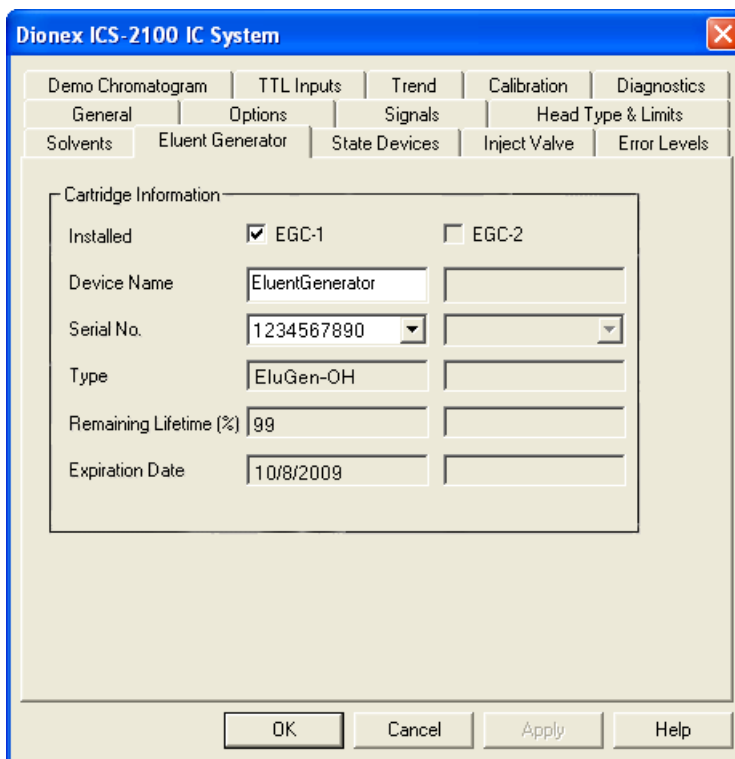

Figure 50. Eluent Generator Configuration Properties: OH Example
3. Click the **Eluent Generator** tab (see Figure 50).